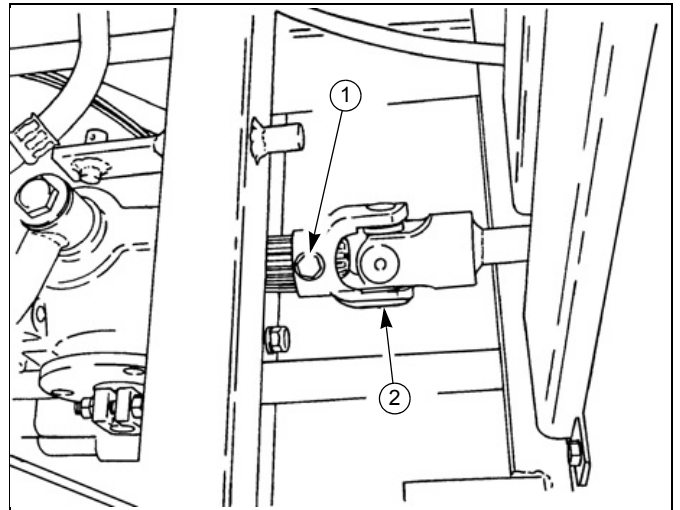

Figure 2-15
15. Remove the bolt ① from the universal joint ② and disconnect the joint from the HST input shaft by sliding the joint towards the engine. Figure 2-15